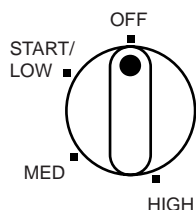

Figure 5 - Control Knob Positions
6. Turn control knob to the low position and push in (see Figure 5). Hold knob in and push piezo ignitor button. You may need to push piezo ignitor button 3-8 times until the main burner lights. When main burner lights, keep automatic control valve knob pushed in. Release button after 30 seconds.